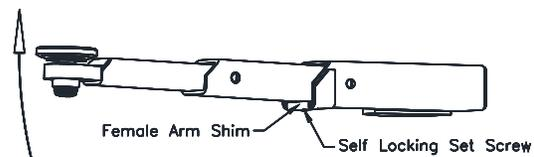

Fig. 18 – Arm Shim, 3-Stage
- 60) Extend the arm fully and lift up on the male portion, **Fig. 18**.